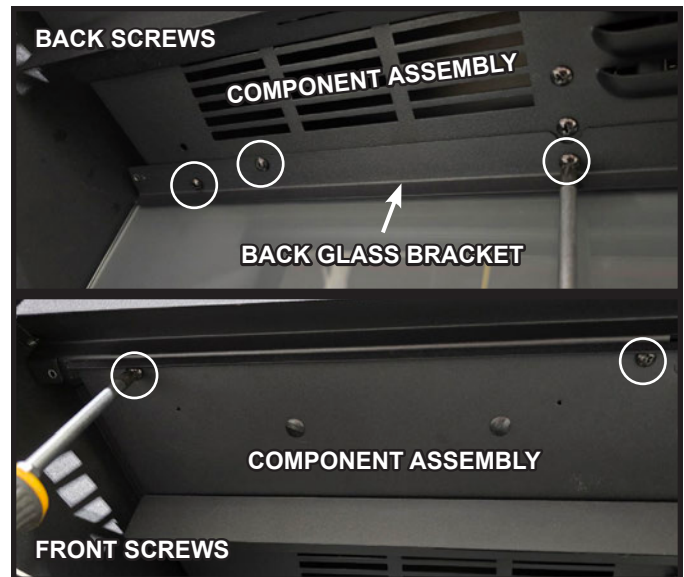

Figure 6 Component Assembly Screws
4. Remove all the screws attaching the back glass bracket to the component assembly. See Figure 6. Set screws and back glass bracket aside.
5. Remove all the screws attaching the front edge of the component assembly to the appliance, making sure the component assembly is supported. See Figure 6.
NOTE: Figure 6 only shows the front and back screws on one side of the component assembly. Screw locations are similar on the other side of the appliance.